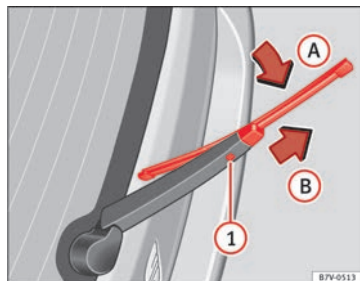

Fig. 162 Changing the rear wiper blade
- Pull the wiper blade out of its mounting on the wiper arm ⇒ Fig. 162 (arrow A).
- Hold down the release button ⇒ Fig. 162 ① while gently pulling the blade in the direction of the arrow B. This may require some strength. ►
- Insert a new blade of the **same length and type** in the wiper arm in the opposite direction to the arrow → Fig. 162 (B) and hook into place. This feature is operational when the knob is in position (arrow (A)).